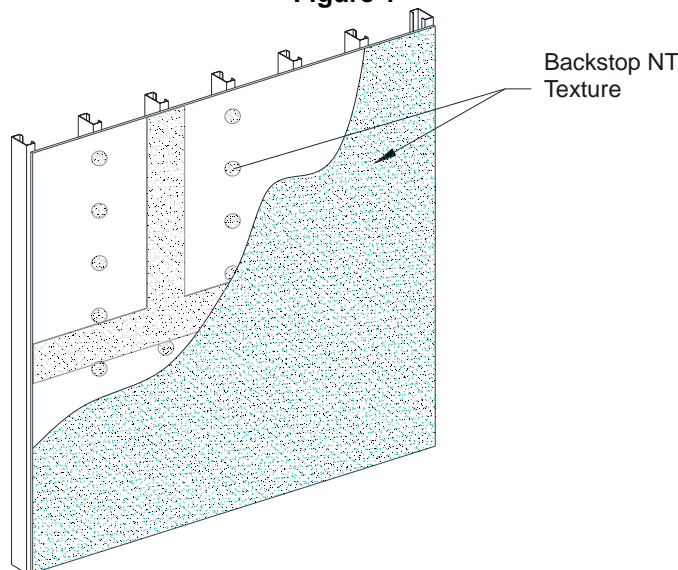

Figure 2
3. Using a coarse, open-cell foam roller cover with a 10 mm (3/8 in) foam nap (Foampro® roller #58), apply a uniform, continuous film of Backstop NT - Texture over the entire sheathing or CMU or concrete face, including the previously treated areas (Fig. 2). **NOTE: If the roller pulls material back out of the sheathing joints, it indicates that the joint material is not sufficiently dry.**